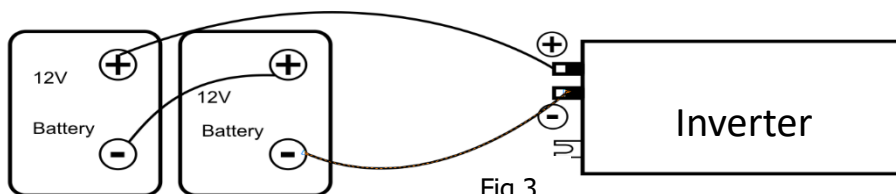

Fig.3
2) Multiple batteries in series connection(Refer to Fig.3): All batteries must be equal in voltage and amp hour capacity. The sum of their voltages must be equal to the Nominal DC Voltage of the unit.